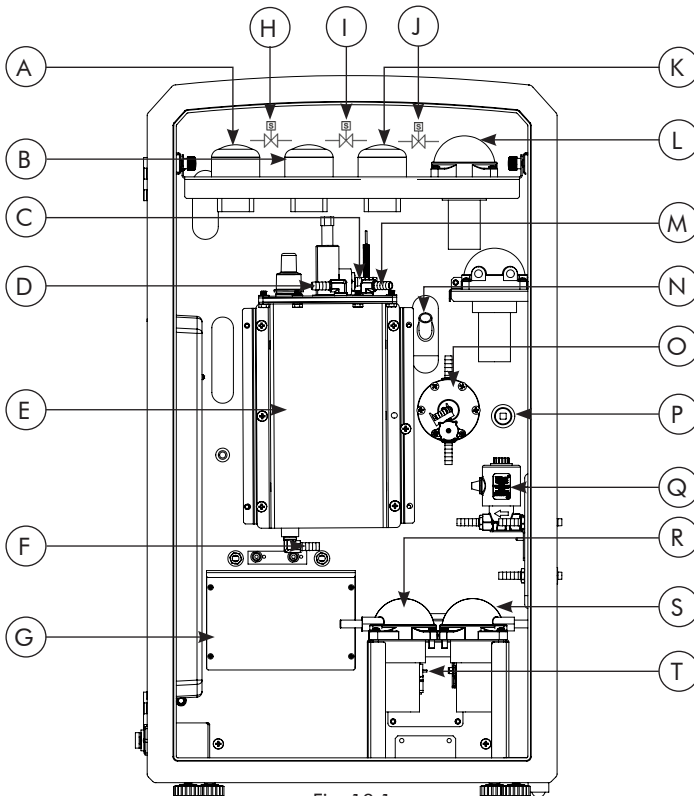

Fig. 18.1
6. Insert Steam Inlet/ Suction Tube to the steam inlet of the dosing head(Ref. fig. 18.1) as shown in the image 23.1 and connect steam inlet to the dosing head.